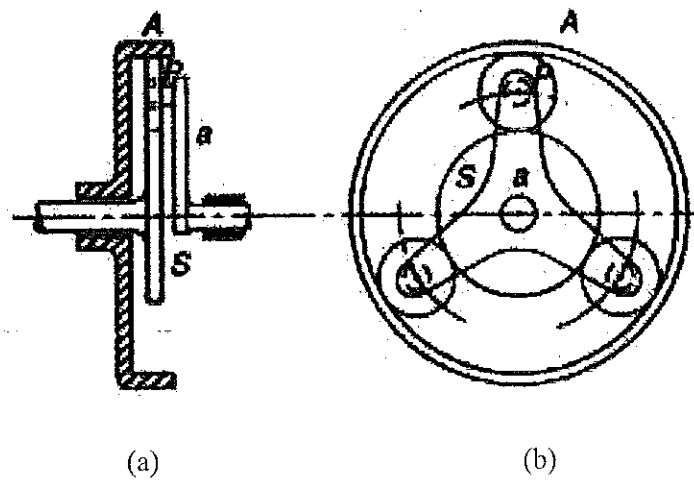

Fig.Q7
- (c) The annulus A in the gear shown in Fig. Q7 rotates at 300 rpm about the axis of the fixed wheel S which has 80 teeth. The three-armed spider drive at 180 rpm. Determine the number of teeth required on the planetary gear wheel P.